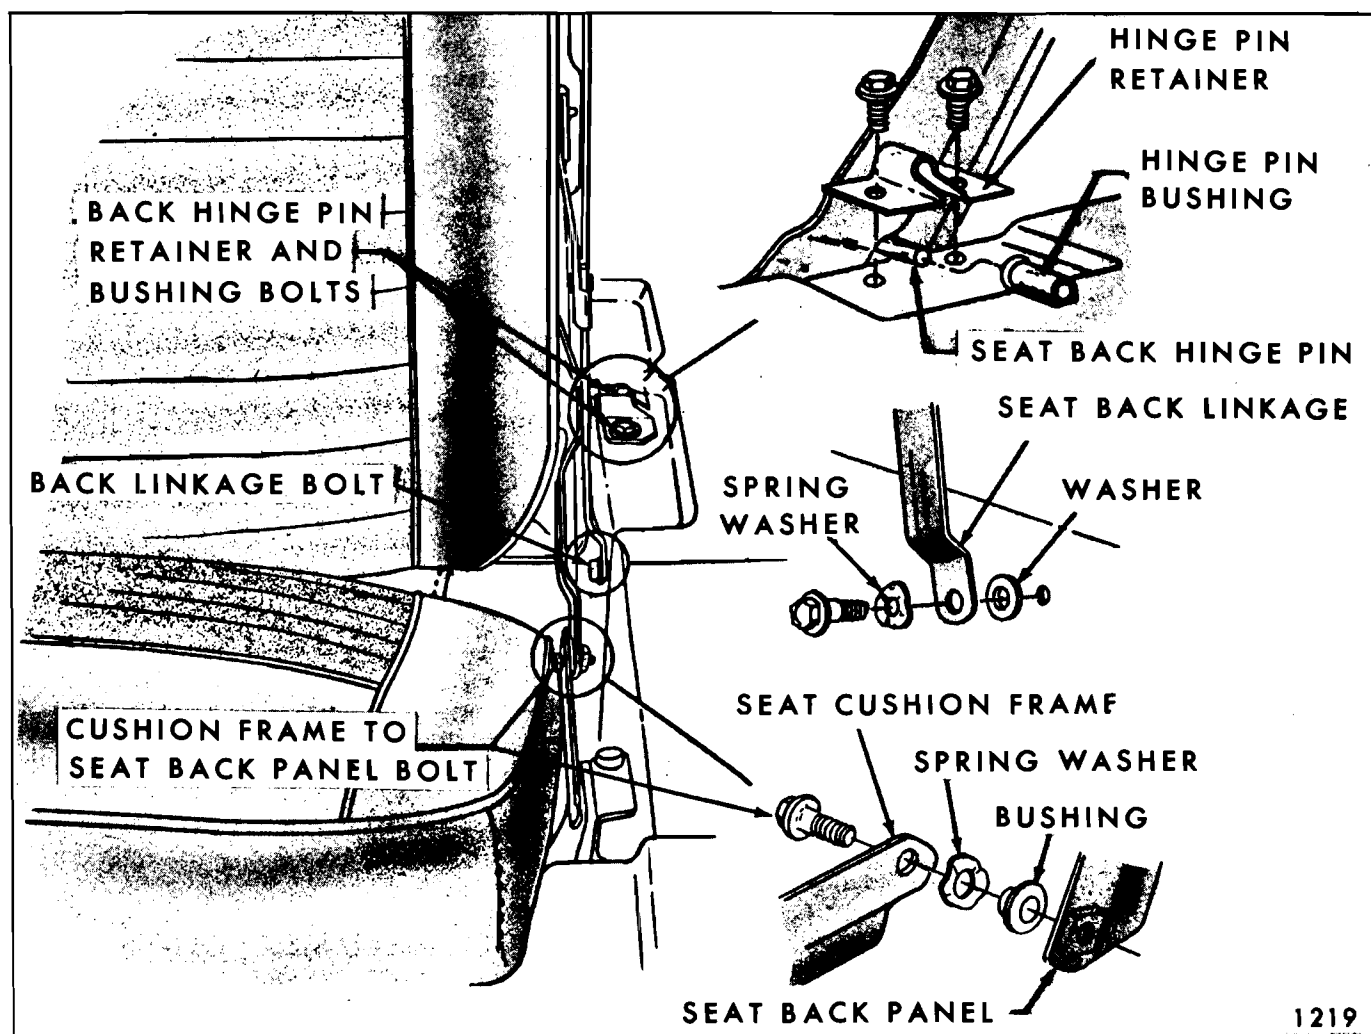

Fig. 15-92—Folding Third Seat (Vista Cruiser and Sport Wagon Styles)
2. Remove seat back linkage-to-compartment side pan attaching bolt (Fig. 15-92) at both right and left sides of seat.
3. At left side of seat remove seat back hinge pin retainer (Fig. 15-92).
between seat back linkage and compartment side pan and spring washer between linkage and bolt head (Fig. 15-92).
3. Remove seat cushion frame-to-seat back panel attaching bolt (Fig. 15-92) from both sides of seat; then, remove seat cushion assembly and place on a clean surface.
5. To install, reverse removal procedure. When installing seat cushion frame-to-seat back frame attaching bolts install bolt bushing and spring washer, as shown in insert of Figure 15-92.
ing bolt (Fig. 15-92); then, remove seat back panel with attached rear floor filler (at kick-up) panel from seat cushion.
5. To install, reverse removal procedure. Refer to inserts in Figure 15-92 for correct installation of linkage bolts, bushings and spring washers.